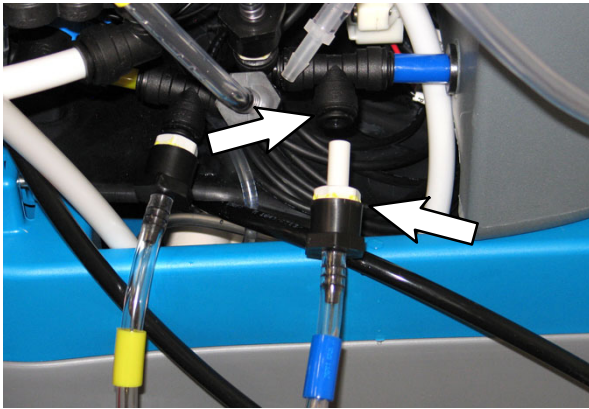

FIG. 33
32. Connect fitting end of blue hose assembly to the t-fitting with the blue marking. (Fig. 33)